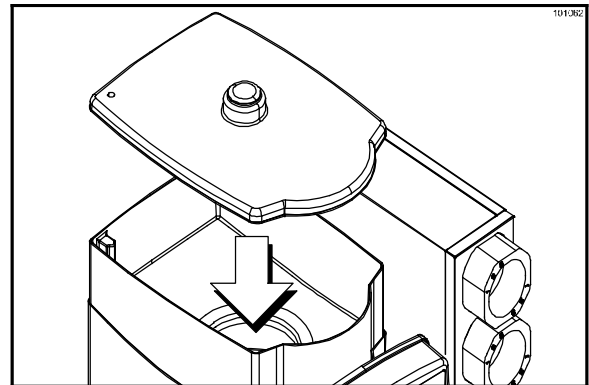

Figure 105
55. Reinstall the ice hopper and the ice hopper cover. (See Figure 105.)